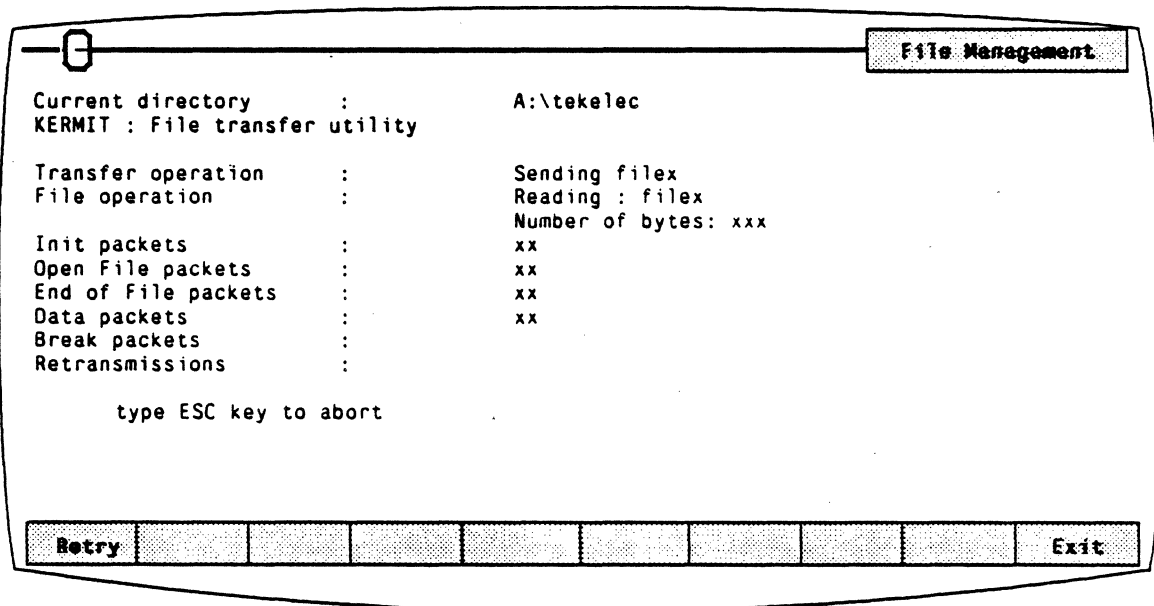

Figure 10.4: File Transfer Utility (Transmit) Screen
10. As the file is transferred, information is displayed so that you can monitor the progress of the transmission (Figure 10.4).